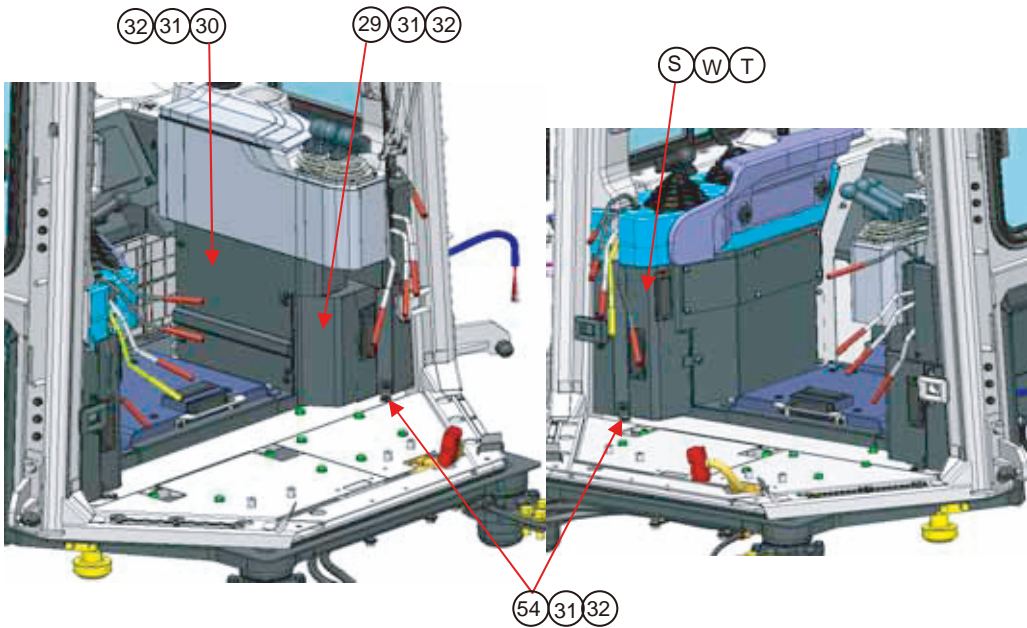

Fig. 13 Installation of floor covers and ducts
- (3) Install the cover as shown in Fig. 13.